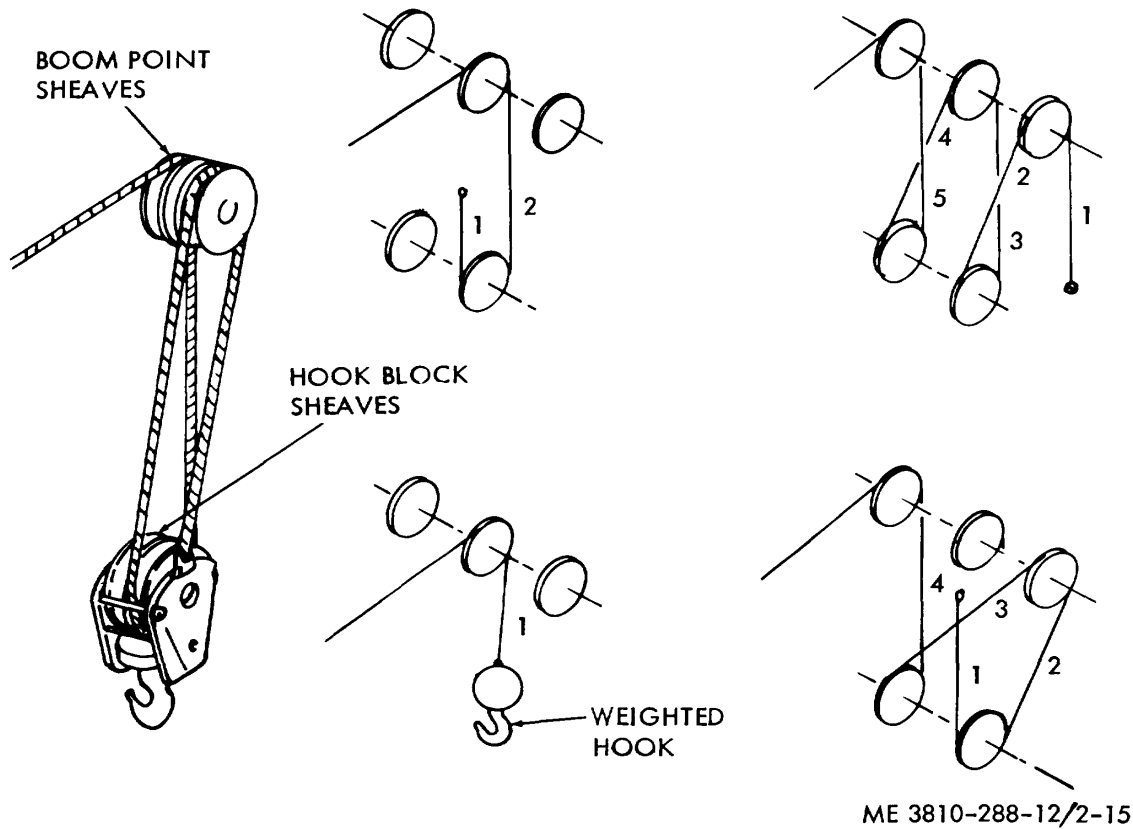

Figure 2-15. Main hoist line reeving.
(1) Main hoist line reeving is shown in figure 2-15. The number of parts of line (from one to five) used on the main hoist line depends on the weight of the loads to be lifted and the line speed desired. For maximum speed of operation, use no more parts of line than are required for the loads to be lifted, within the limitations shown on the rating plate in the machine upper cab.